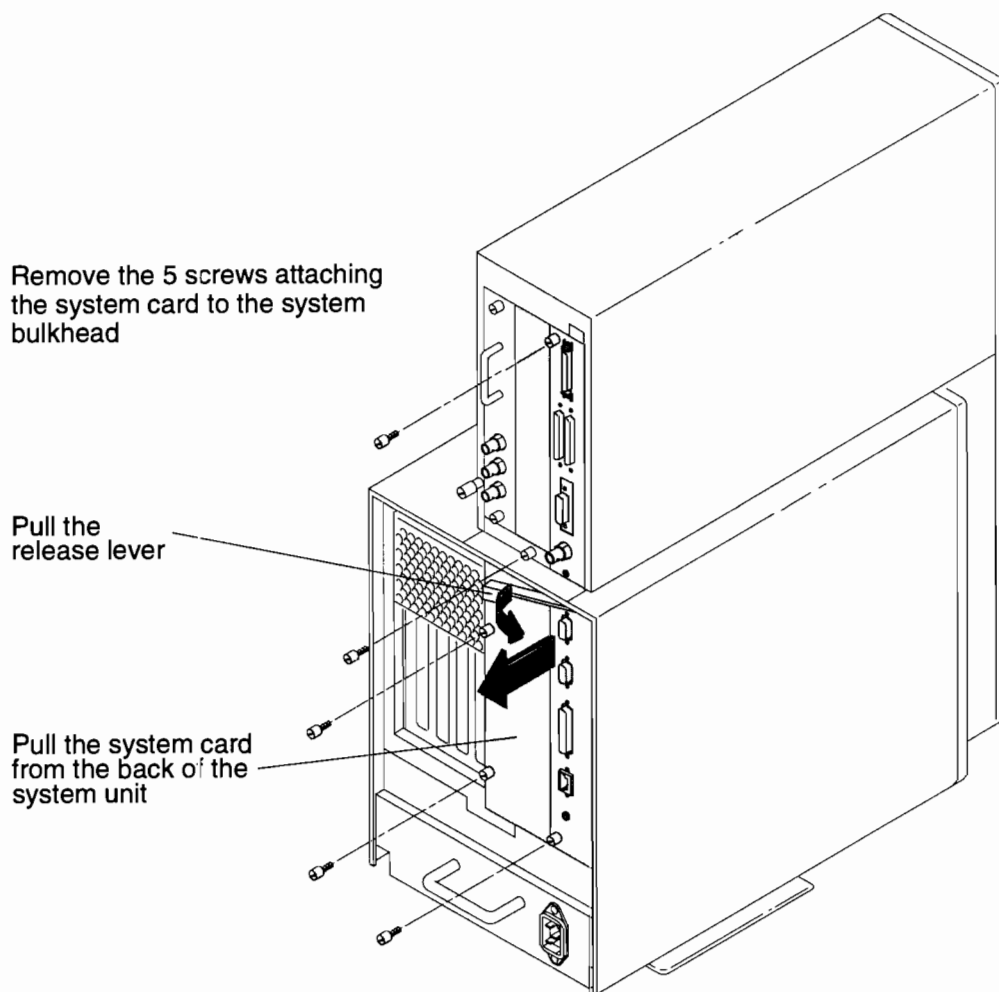

Figure B-2. Removing the System Card (system without FDDI installed)
- 3.** Use a straight slot screwdriver to remove the five screws that hold the system card to the system bulkhead, as shown in Figure B-2.
- 4.** Pull the release lever, as shown in Figure B-2.